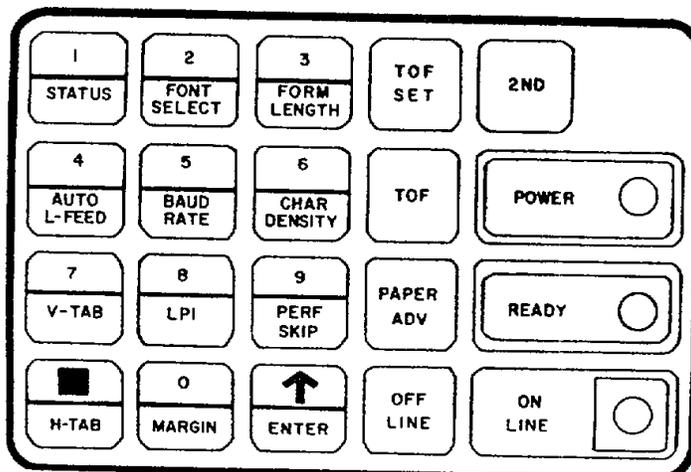

Figure 2-2. Front Panel Controls and Indicators
b. *Front Panel.* The front panel controls and Indicators are shown in figure 2-2 and described in table 2-1.